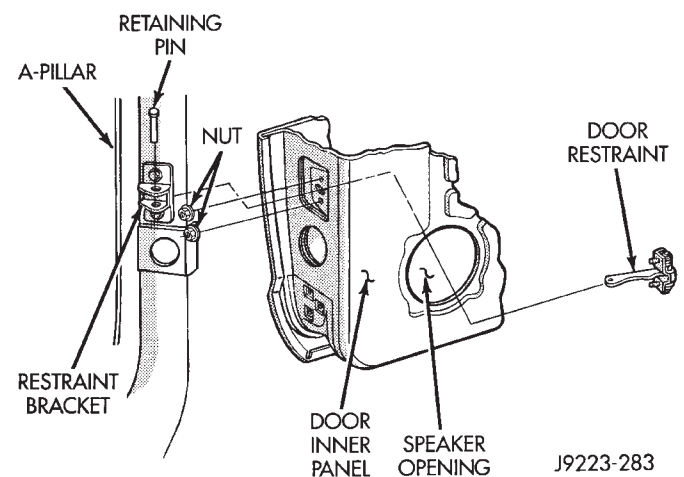

Fig. 28 Door Restraint (Check)
- (1) Remove door trim panel.
- (2) Remove door radio speaker from door inner panel.
- (3) Remove door restraint (check) retaining pin from bracket with a punch.
- (4) Remove nuts and remove restraint via speaker opening. (Fig. 28).